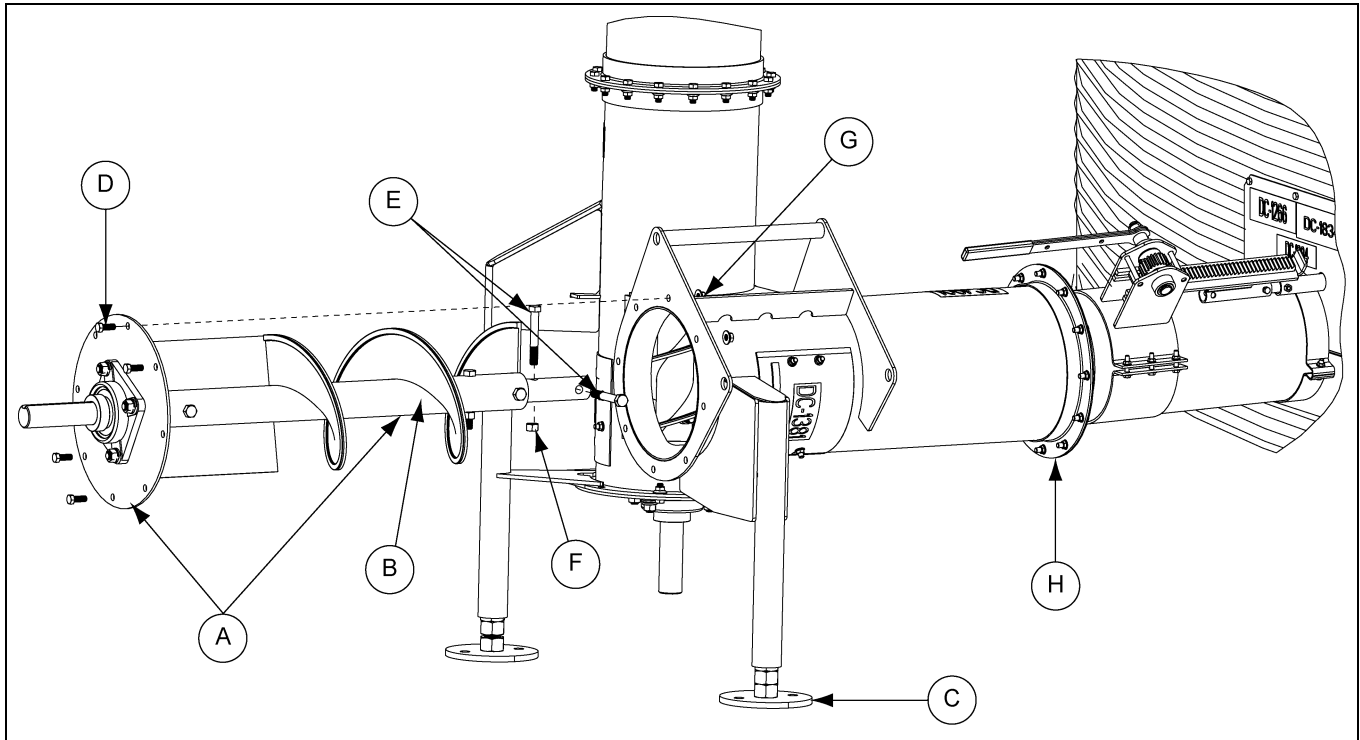

Figure 3D
- A. Slide the *bin unload flight (B)* out through the *vertical auger*. In some applications the flight may have to be unbolted from the center well.
- B. Attach the *horizontal head flight* and *bearing plate assembly* with the appropriate hex bolts and stover nuts. (See Figure 3D on Page 13.)